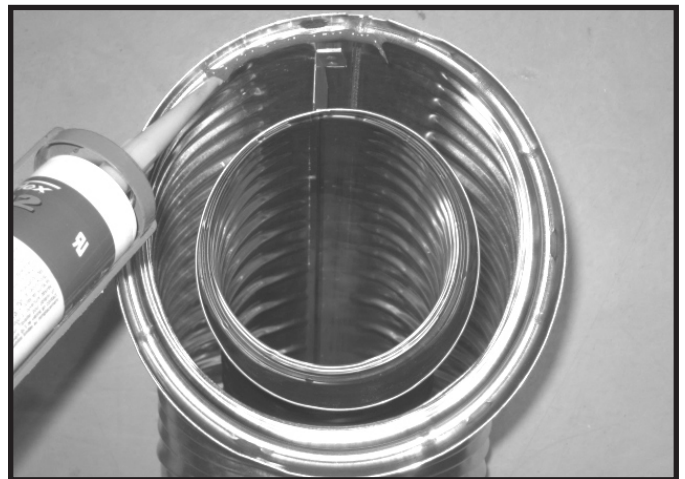

Figure 7.1 High Temperature Silicone Sealant
- Apply a bead of silicone sealant (300 °F minimum continuous exposure rating) inside the female outer pipe joint prior to joining sections. See Figure 7.1 **OR**
- Apply a bead of silicone sealant (300 °F minimum continuous exposure rating) inside the female outer pipe joint prior to joining sections. See Figure 7.1. **OR**